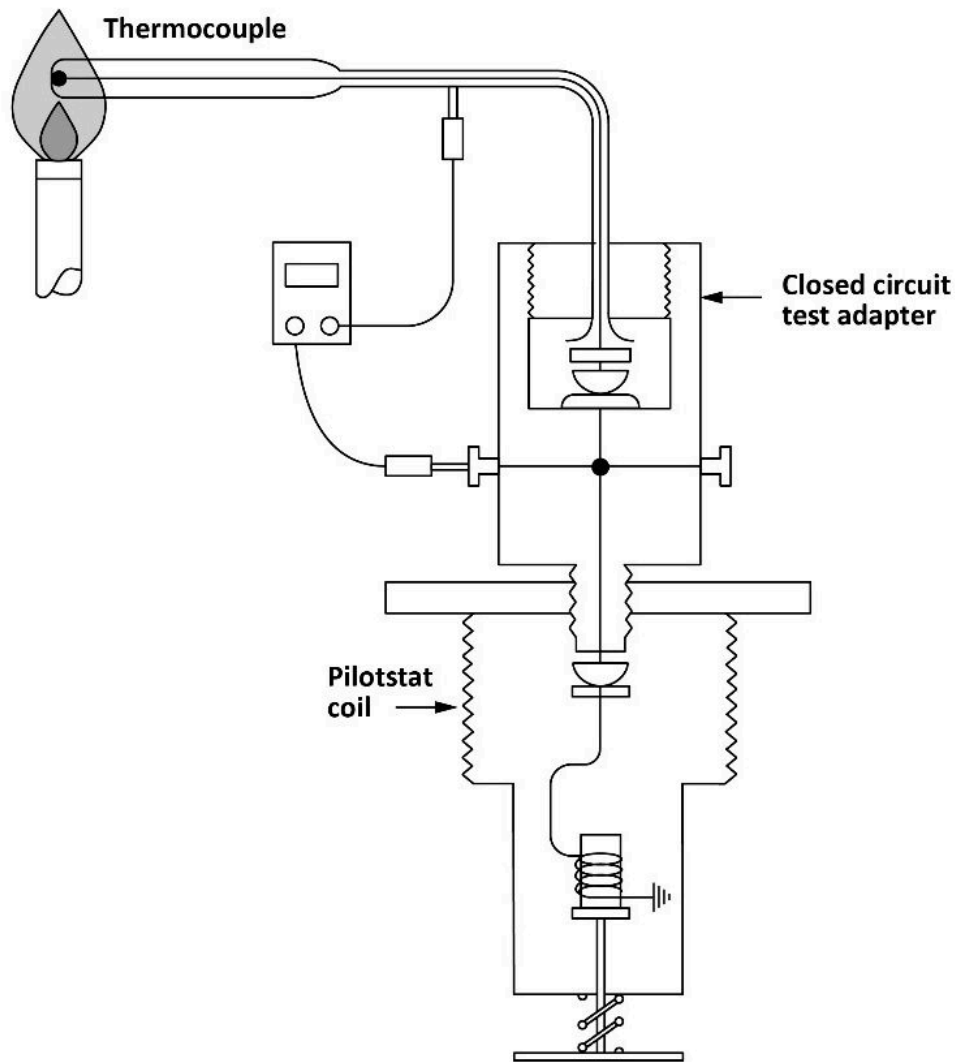

Figure 6 Closed thermocouple circuit test
This will test the performance of the thermocouple under load conditions. At the end with the same connections setup, the pilotstat coil can be tested to determine its condition (Figure 6).
These conditions can be checked using the same meter connection setup as the closed-circuit test (Figure 6):
- Figure 6 “Closed thermocouple circuit test” by Camosun College is licensed under a CC BY 4.0 licence (<https://creativecommons.org/licenses/by/4.0/>).